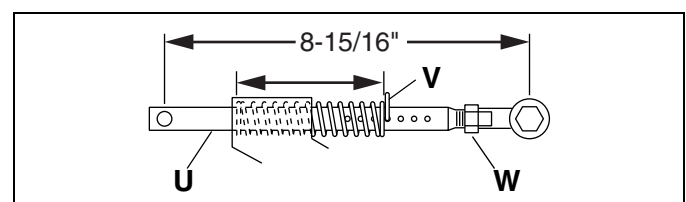

Figure 3F
1. Place each cutting unit in front of its respective lift arm. Raise lift arm and position cutting unit so that yoke (T) is in line with swivel housing (S). Carefully lower arm onto yoke. Insert pin (K) through hole in yoke, fasten retaining clip (L), and install cap (M).
2. Assemble motors (N), with hoses attached, to the cutting units. Clean motor splines and coupling. Apply Moly 2 EP grease to the female spline on reel. Thoroughly clean the motor mounting surface. Slide motor into bearing housing. On 5 in. reels lock motor in place by inserting two motor clips (O), with loops facing center of motor, into mounting pins (P). On 7 in. reels hand tighten key (Q) on bearing housing.
3. Raise reels and install down pressure spring pins (V, Figure 3F). If cutting height has not changed, set pins in same position they were in when reels were removed.
1. Lower reels to the ground and remove down pressure spring pins (V, Figure 3F). Make note of where springs are set.
2. On 5 in. reels, remove motor clips (O). On 7 in. reels loosen key (Q) on motor housing. Pull motor straight out from cutting unit.
3. Carefully place motor and its hoses away from the cutting unit. To prevent contamination and damage to internal components cover or cap off bearing housing cavity (R).
4. Remove cap (M) on lift arm. Unfasten retaining clip (L) from pin (K) and remove pin.